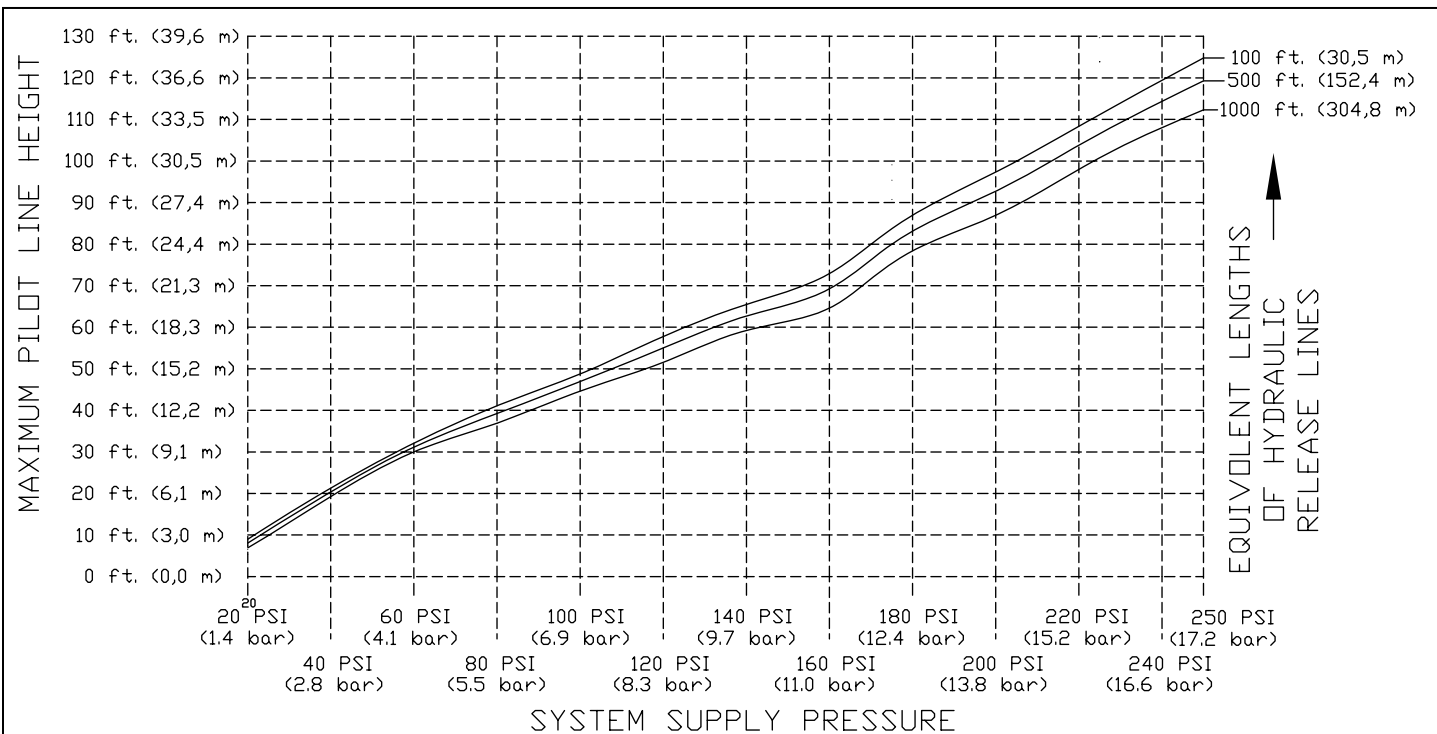

Figure 2: Maximum Allowable Pilot Heights for Select Equivalent Lengths of Hydraulic Release Piping
- a. Hydraulic Release Systems: See Figure 2 for the maximum allowable elevation of hydraulic release piping above the 2" (DN50) Flow Control Valve. If the maximum height of hydraulic release piping exceeds the limit shown in Figure 2, use a Pneumatic or Electric Release System.